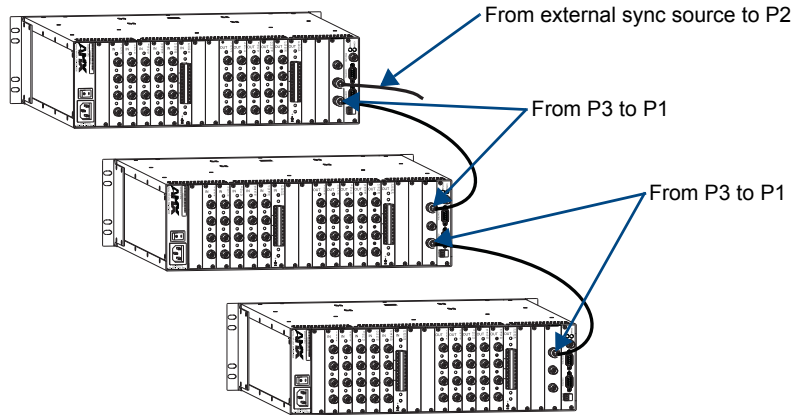

FIG. 120 Multiple enclosures cabled for external sync
Systems with multiple enclosures will need a VIS board installed in all enclosures that require vertical interval sync switching. Attach an external sync source to the master enclosure’s External Sync Input (P2) connector (FIG. 120). Relay the sync signal to all additional enclosures using the Local Sync Output (P3) and Local Sync Input (P1) connectors in a daisy chain pattern.
2. Attach a cable to the Local Sync Output (P3) connector on the VIS board in the master enclosure (FIG. 120).